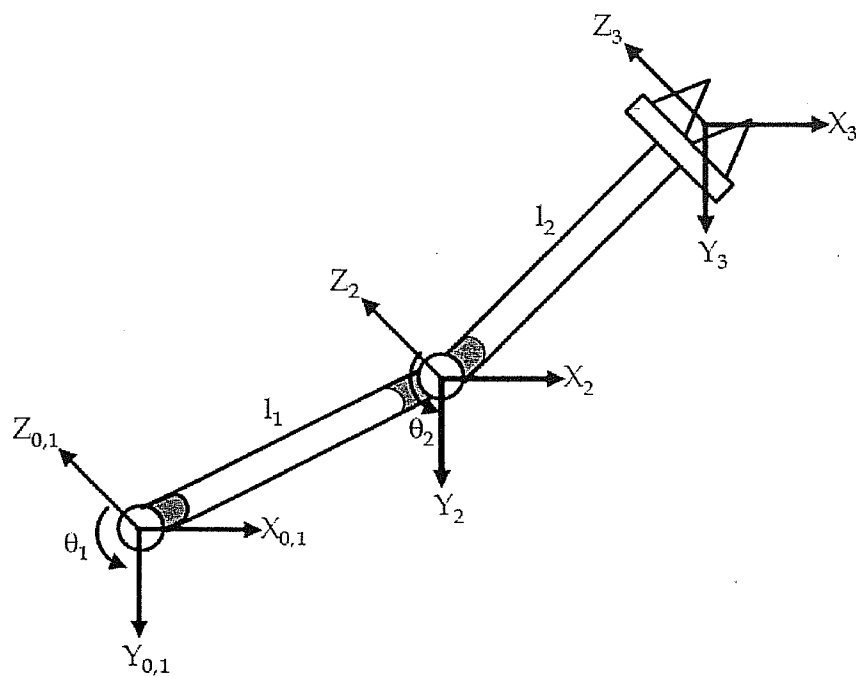

Figure 5
- The coordinate frame assignment is depicted in Figure 5. Derive the inverse kinematics equations for the 2 DOF manipulator.